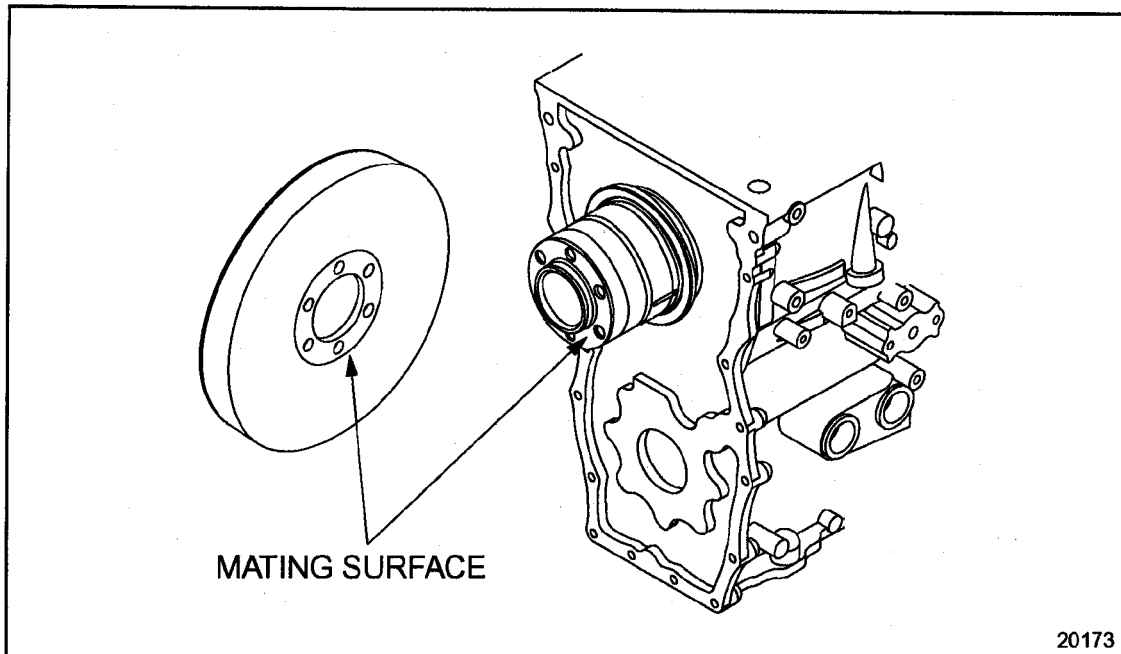

Figure 1-206 Damper and Crankshaft Contact Surfaces
2. Inspect the damper inner contact surfaces and the crankshaft end for damage. See Figure 1-206.